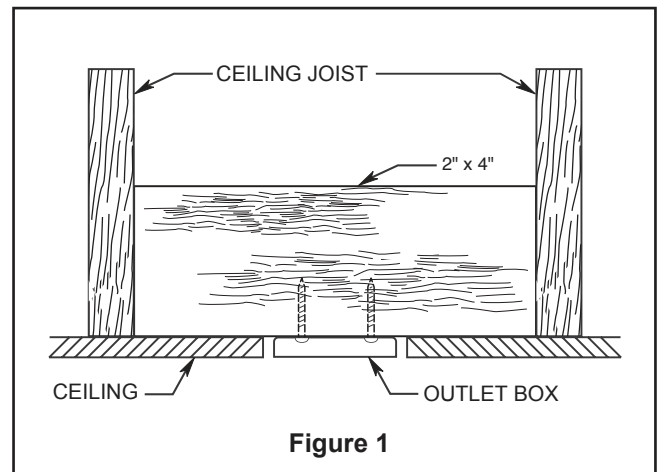
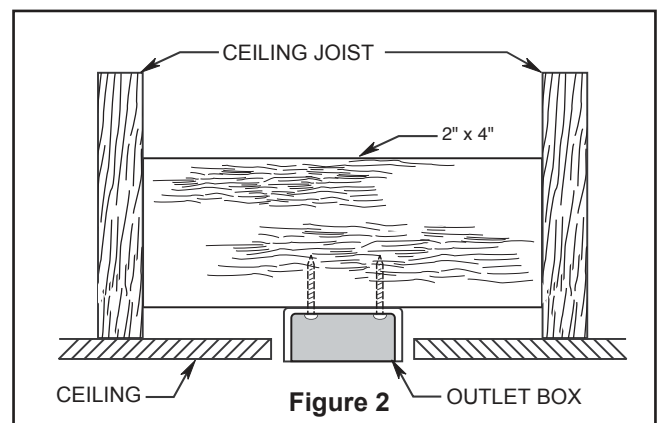
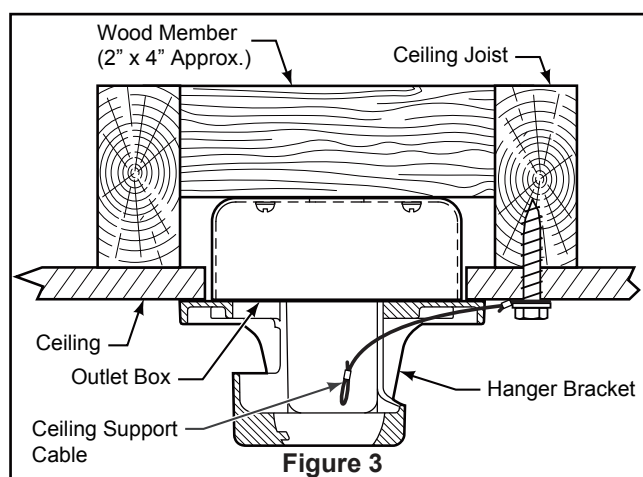

Figure 1
Figure 2
Figure 3
Your new ceiling fan will require a grounded electrical supply line of 120 volts AC, 60 HZ, 15 Amp Circuit. Electrical code requires use of a fan-rated outlet box to support the extra weight and motion associated with a ceiling fan. A fan-rated box will be labeled as such and typically supports up to a 70lb ceiling fan. Fan-Rated Outlet Boxes vary in ratings and design. Ensure the ratings of your ceiling fan outlet box meet the requirements for the ceiling fan being installed. Figure 1, Figure 2 and Figure 3 depicts different structural configurations that may be used for mounting the outlet box.
Low profile box (Figure 1)
Deep box (Figure 2)
Deep box with brace (Figure 3)
3. Loosen the two set screws and locking nuts in the downrod support of the motor housing assembly. Route the black, white, blue wires and safety cable through the downrod. (Figure 3)
1. Securely attach the hanger bracket to the outlet box using the outlet box screws and washers supplied with the outlet box. (Figure 3)
2. Drill a 1/4" pilot hole into the building structure to prevent splitting or cracking with installation of the lag bolt. Using the 3/8" x 2" lag bolt and flat washer, attach safety cable to ceiling joist or wood structural member. The lag bolt will pass through the flat washer, safety cable loop, and into the building structure. (Figure 3)
NOTE: Ceiling support cable cannot be secured to outlet box only, it must be directly secured to ceiling joist or structural member using the 3/8" x 2" lag bolt and flat washer. (Figure 3)
2. Slide the receiver into the hanger bracket before wiring as shown in figure 3.
- 3.** To make fan operational, install 23A/12V battery (included) in hand-held remote transmitter, with fan power off. Then follow the remote code setting process. (If not used for long periods of time, remove battery to prevent damage to transmitter). Store the remote away from excessive heat or humidity. (Figure 3)